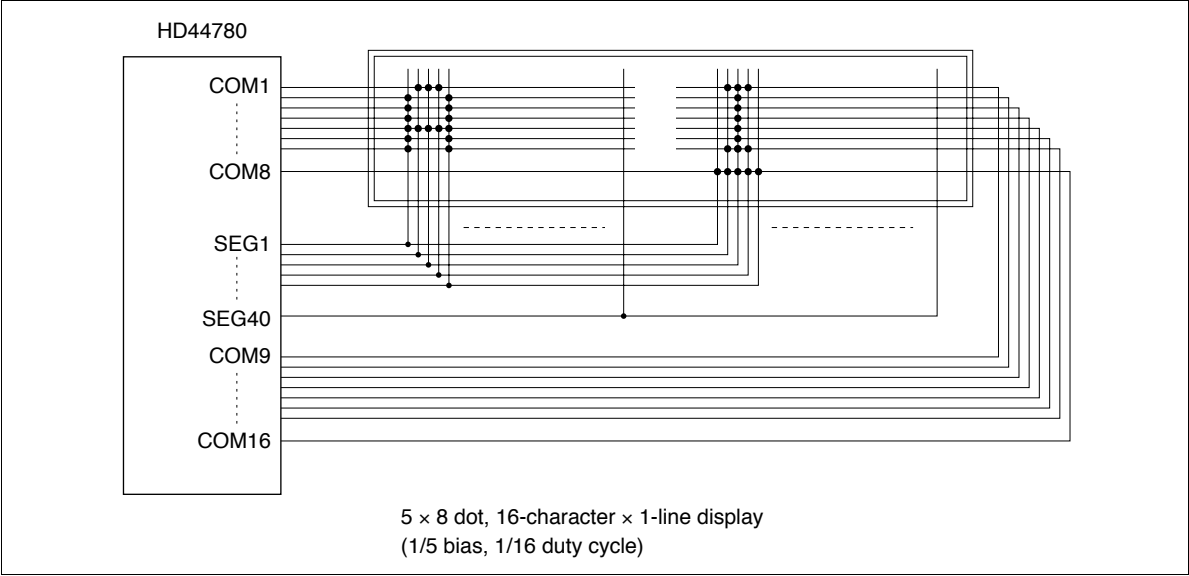

Figure 20 Changed Matrix Layout Displays
**Connection of Changed Matrix Layout:** In the preceding examples, the number of lines correspond to the scanning lines. However, the following display examples (Figure 20) are made possible by altering the matrix layout of the liquid crystal display panel. In either case, the only change is the layout. The display characteristics and the number of liquid crystal display characters depend on the number of common signals or on duty factor. Note that the display data RAM (DDRAM) addresses for 4 characters  $\times$  2 lines and for 16 characters  $\times$  1 line are the same as in Figure 19.